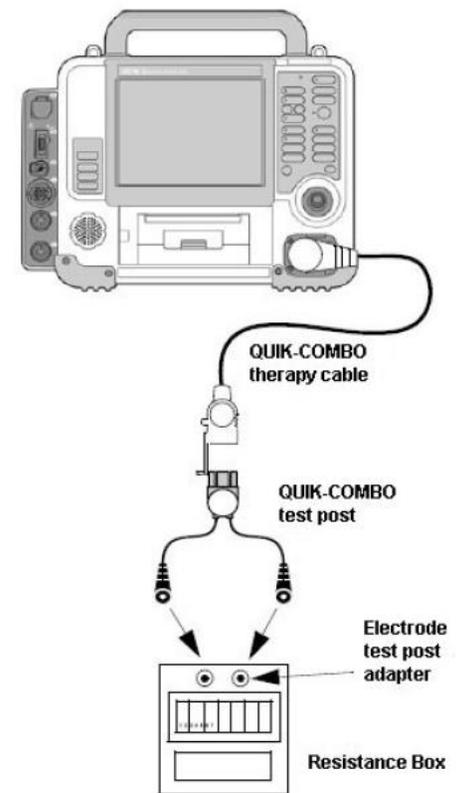

Figure 1.56—Patient impedance test setup
2. Connect the QUIK-COMBO test post snaps to a decade resistance box, using the appropriate adapters as shown in Figure 1.56.